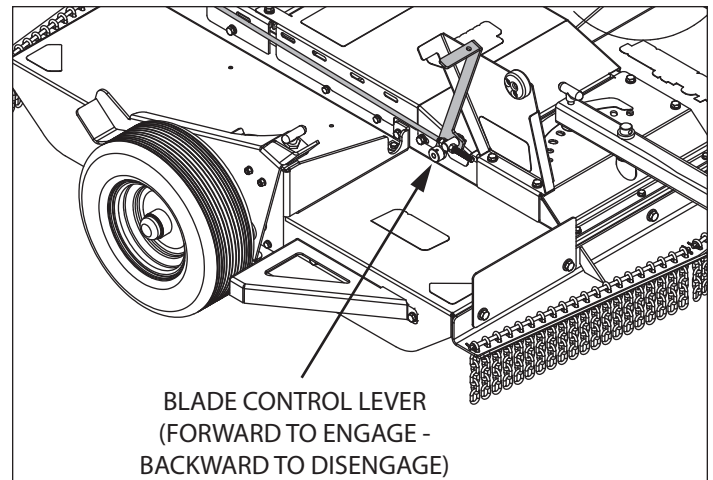

FIGURE 5: CUTTER BLADE CONTROL LEVER.
2. Make sure the blade control lever is in the DISENGAGED position. **SEE FIGURE 5**
- Engage the cutter blades by pulling the blade control lever towards the front of the mower. **SEE FIGURE 5**